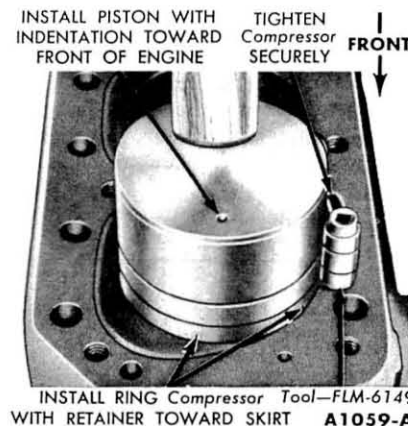

FIG. 32—Piston Installation
5. Install a piston ring compressor on the piston and push the piston in with a hammer handle until it is slightly below the top of the cylinder (Fig. 32). Be sure to guide the connecting rods to avoid damaging the crankshaft journals. Install the piston with the indentation in the piston head toward the front of the engine.